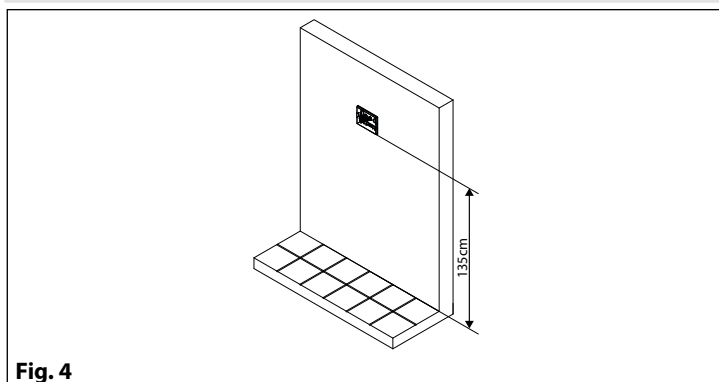

Fig. 4
2. Protect the holes to fix the videophone to the flush mounting box then embed the flush mounting box in line with the wall **in a horizontal position** at 135cm height from the floor as shown in Fig. 4;